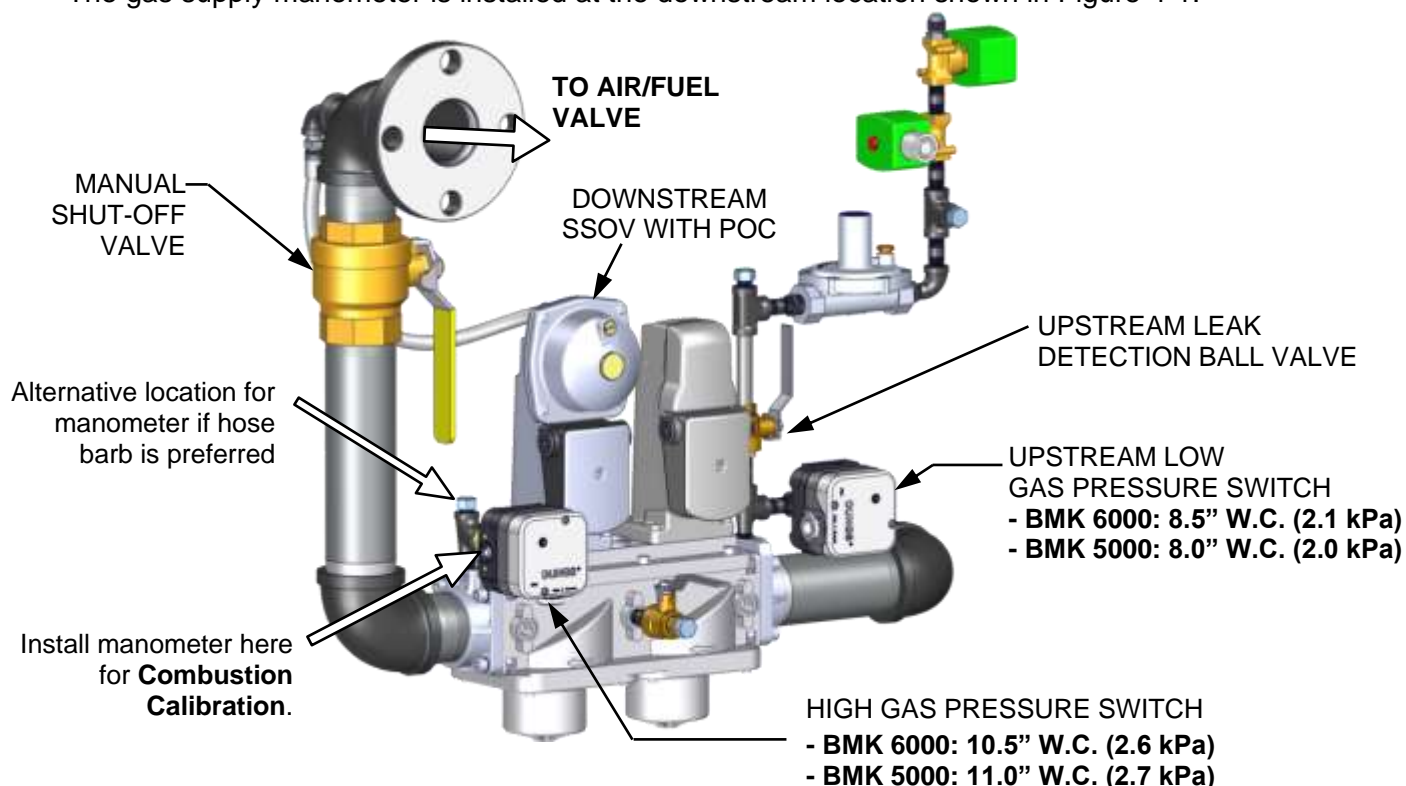

Figure 4-1: Port Location for Combustion Calibration
The gas supply manometer is installed at the upstream and/or downstream location shown in Figure 4-1.
The gas supply manometer is installed at the downstream location shown in Figure 4-1.
3. To monitor the gas pressure on the downstream side of the SSOV during Combustion Calibration (section 4.5.1 and/or 4.5.2, below), locate the port on the side of the High Gas Pressure switch, as shown in Figure 4-1, and loosen the screw inside a few turns to open it. **Do not remove this screw completely.** Alternatively, you can remove the 1/4 inch plug shown in Figure 4-1, above, and install a hose barb fitting in that location.
The Pilot Burner should be inspected at the beginning of each heating season, or every 6 months for continuous operation. It is constructed of high quality, heat resistant stainless steel, however some darkening of the metal is expected. No adjustment of the Pilot should be required, however the gas pressure downstream of the regulator should be checked if an ignition issue is encountered. Refer to Figure 4-1 for test port location.